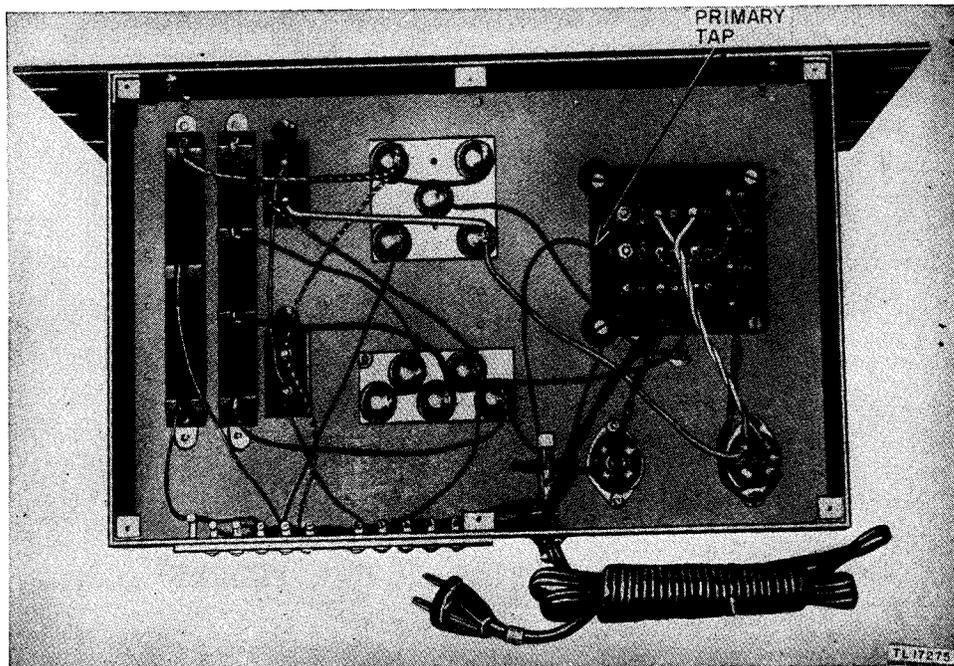

Figure 12. Bottom view of power supply unit, showing primary tap connection.
*e.* A-C INPUT. Before plugging the power cord into the a-c power line, remove the bottom plate from the power supply unit to see that the primary tap is properly connected for the particular a-c voltage available. This primary tap connects the fuse holder to one of the screw terminals on the power transformer, and is marked PRIMARY TAP in figure 12. Connect the primary tap to the screw terminal most closely agreeing with the available a-c line voltage and replace the bottom cover plate.
(1) Power Supply Unit RA-74-(\*) has eight